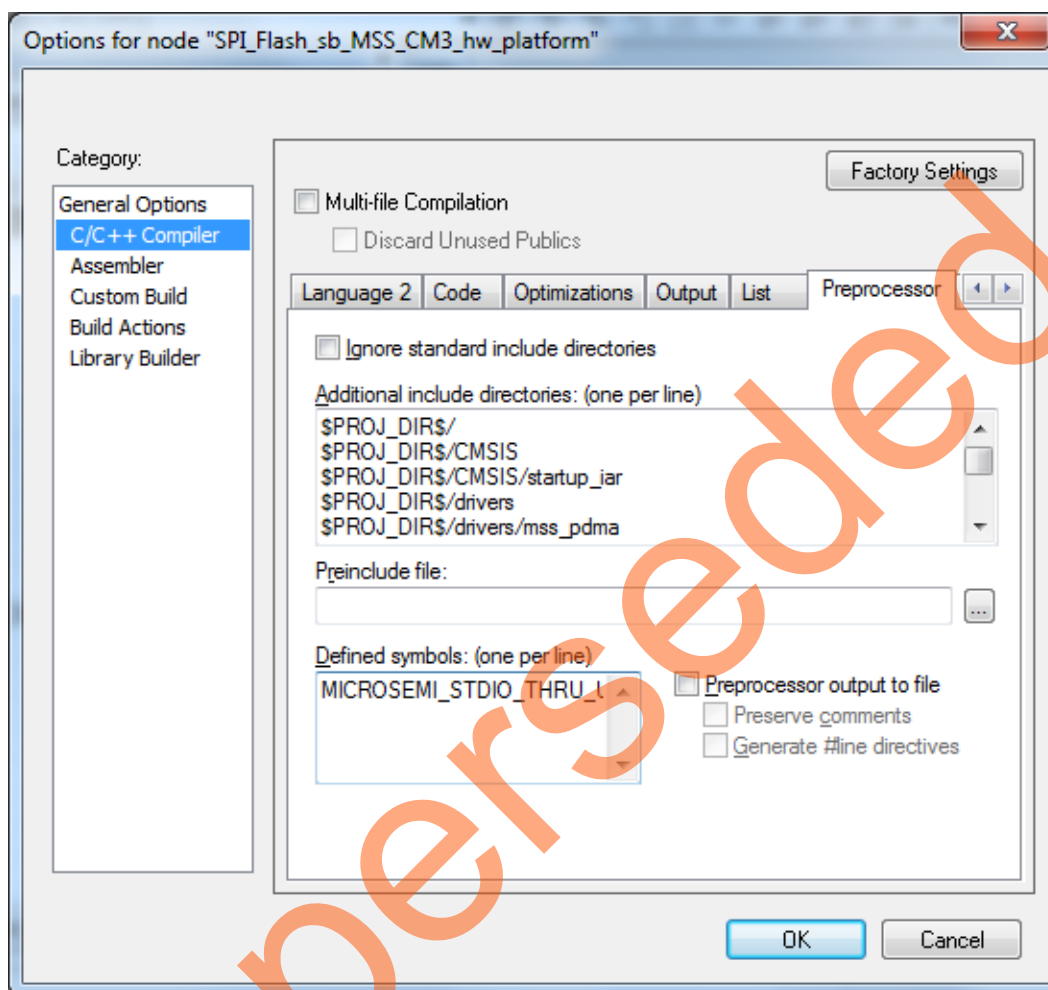

Figure 25 • IAR Workspace Window - Adding Symbol
11. Under **Defined symbols** enter MICROSEMI\_STDIO\_THRU\_UART and click **OK**, as shown in Figure 25.